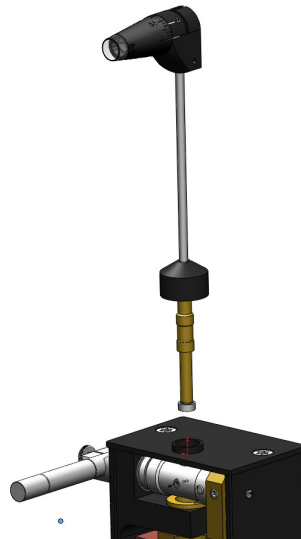

Figure 9 - Arm Assembly Removal
2. Remove the arm assembly as shown in Figure 9 and confirm that it is not damaged in any way. Replace any damaged parts.